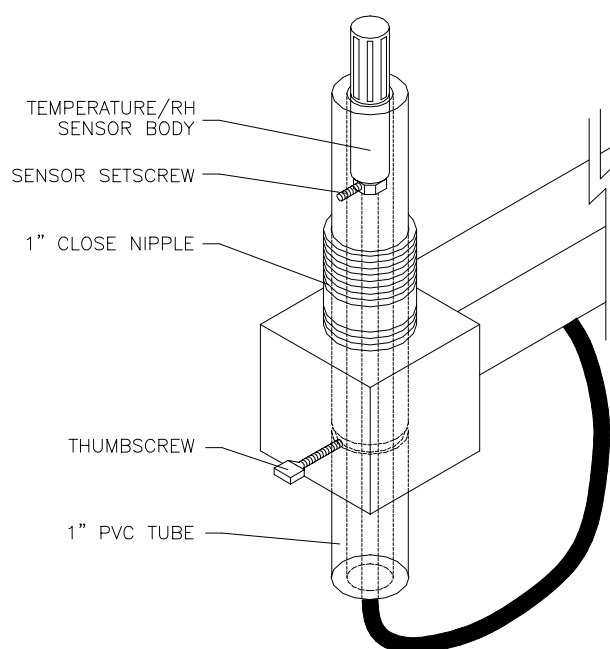

Figure 10-31 T/RH Sensor Removal
5. Loosen the thumb screw at the top of the arm and remove the sensor mounting assembly (1" gray PVC tube) from the arm (see Figure 10-31).
17. As shown in Figure 10-31, position the T/RH probe inside the mounting assembly such that the metallic base of the probe body aligns with the sensor setscrew (a port hole drilled in the PVC tube opposite the setscrew provides the means to visually align the probe in the PVC tube). Tighten the setscrew to secure the sensor.